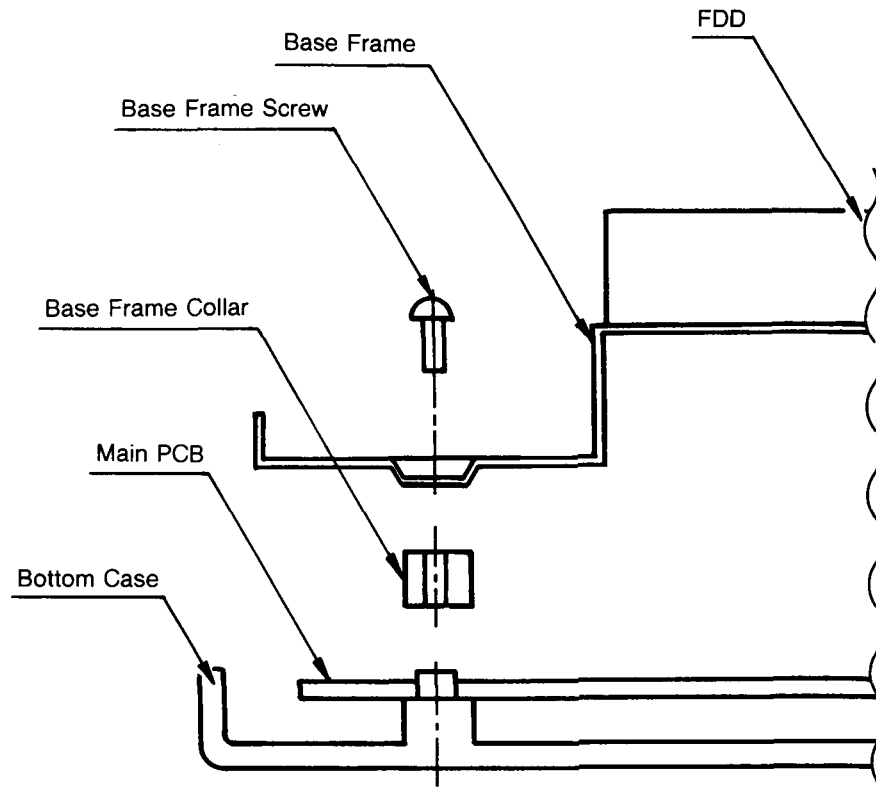

Figure 2-14. Left side of Base Frame
(2) Turn over the Bottom Case to the normal position and remove two Base Frame screws. (Figure 2-14)